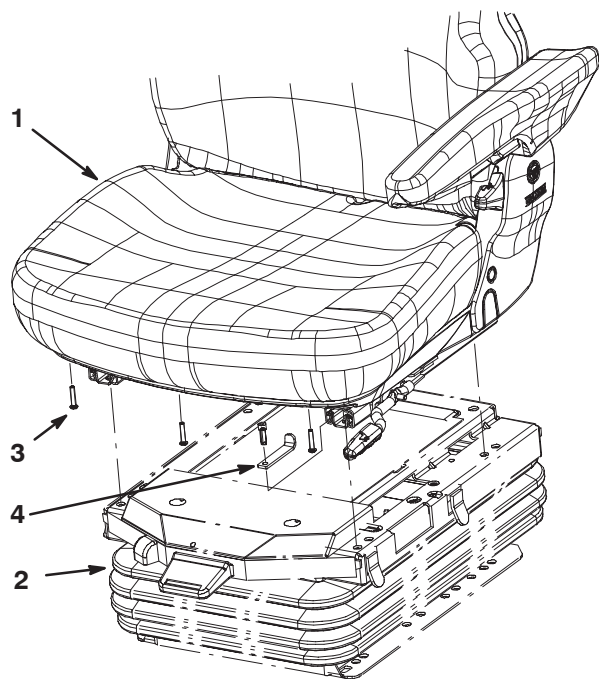

Figure 1
2. Place the seat onto the seat suspension, aligning the mounting holes in the seat rails with the holes in the top of the suspension. Use the holes indicated in figure 1.
- Tighten all (4) screws securely but do not torque.
- Remove the (3) #25 Torx screws securing the seat cushion to the front of the seat pan (Fig. 1). Remove the seat cushion.
- Slide the seat completely rearward and insert the rail stop (Fig. 1) into the slide rail until the holes align.
- Install the seat cushion to the seat pan and secure with the (3) #25 Torx screws previously removed.